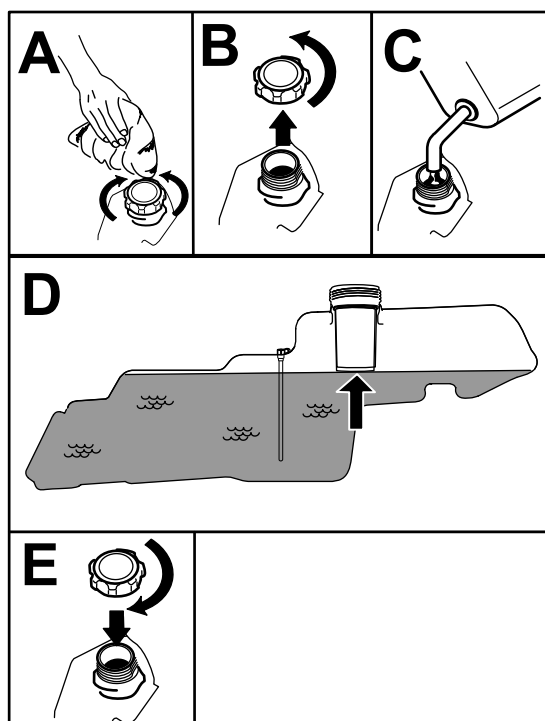

Figure 7
- Fill the fuel tank to the bottom of the filler neck (Figure 7). Do not fill the fuel tank completely full.